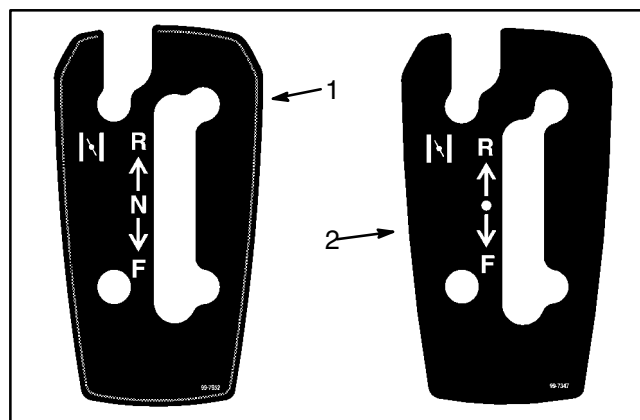

Figure 3
2. On vehicles equipped with a neutral position on the shift lever (Fig. 3):
3. On vehicles without a neutral position on the shift lever (Fig. 3):